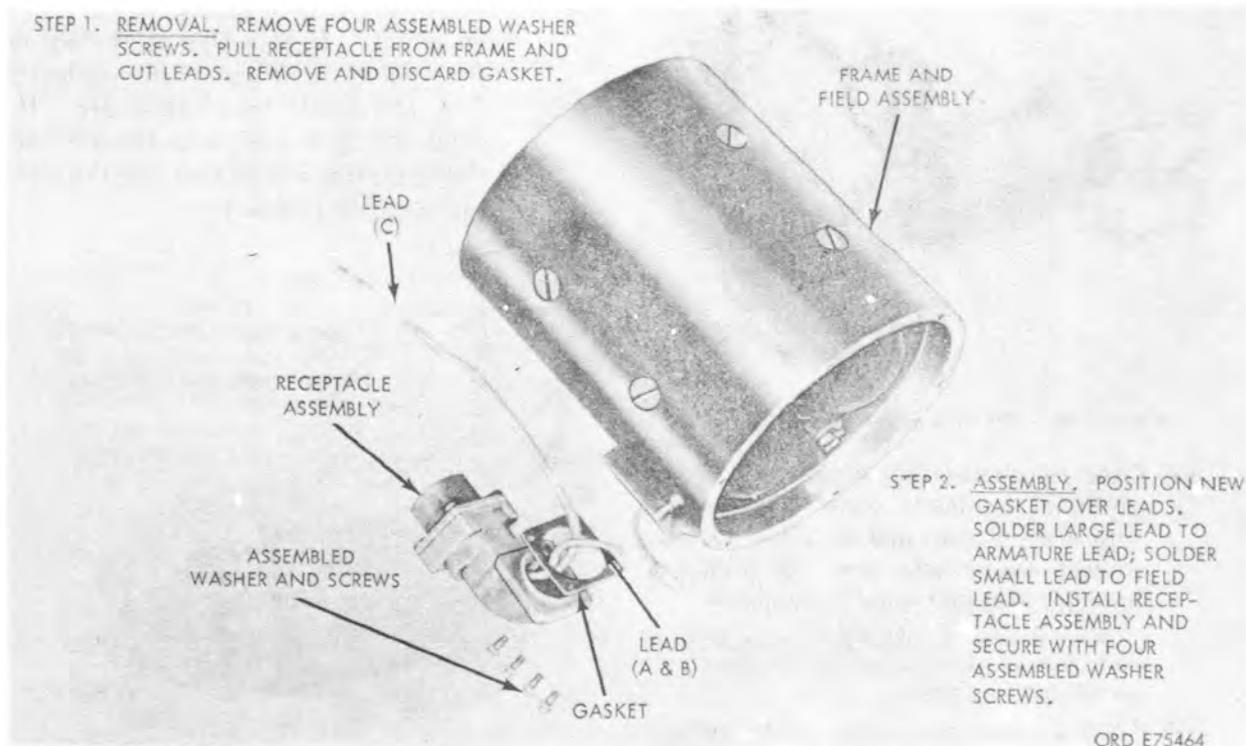

Figure 4-10. Replacing receptacle assembly.
- (2) *Receptacle assembly.* Replace receptacle assembly as shown in figure 4-10.
- (3) *Frame and field assembly.* If the insulating compound on outer surface of field windings is dry, cracked or chipped, apply a coat of air-drying, fungus-resistant insulating varnish. Brush varnish on carefully so as not to get varnish on end bell seating surfaces and insulated brush lead. Allow varnish to dry thoroughly before assembling generator.